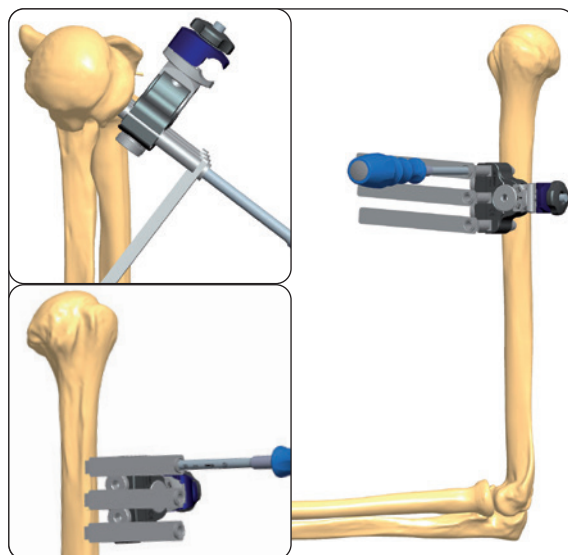

Fig. 1
1) Expose the lateral aspect of the Humerus by blunt dissection in order to avoid damage to the radial nerve, taking into account that the first screw has to be inserted at the proximal level, placed not completely lateral but 10–15 degrees anterior. Use the multi-screw clamp as a template to insert screws perpendicular to the longitudinal axis of the bone. Insert the screw guides and position the trocar (19955), into one of the outer holes of the multi-screw clamp. Use the trocar to locate the midline by palpation (**Fig. 1**).